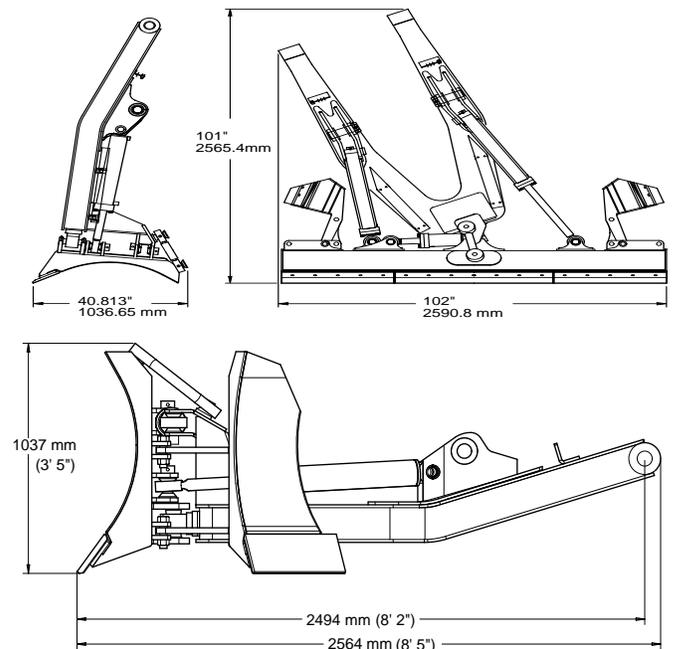

FIGURE 5.9E
5. ED190-VI Blade - Figure 5.9E